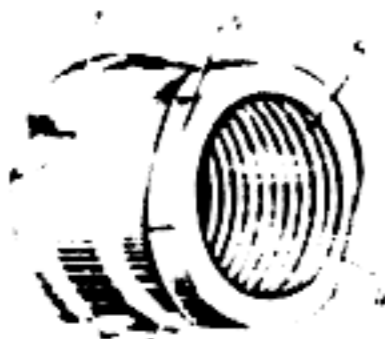

Figure 5. Barrel bushing (0-14).
The barrel bushing (fig.5) serves to protect the threads on which the device for firing blank cartridges is installed. On the exterior of the barrel bushing there is a shoulder (1) with four recesses (2) for the lock; there are also a circular groove (3) and two recesses (4). The grooves and recesses are designed to hold the hand guard when the bore is being cleaned. The barrel bushing is provided with interior threads (5) for installation on the muzzle.